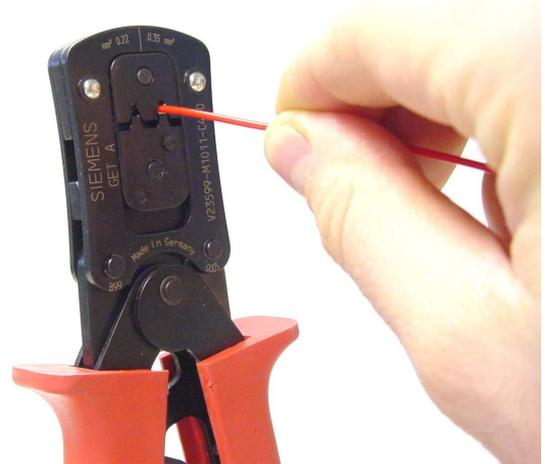

Figure 8
1. At first the handle needs to be closed slightly until the contact is held in the inlet bevel of the crimping profile. Then the wire is inserted as far as the insulation stop plate (see figure 8).